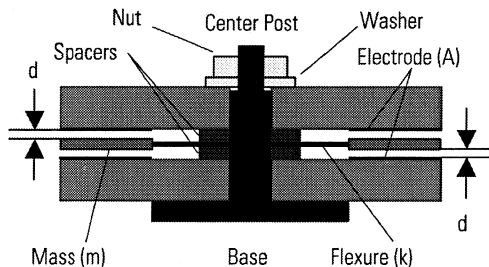
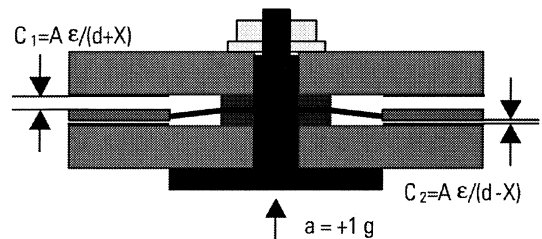
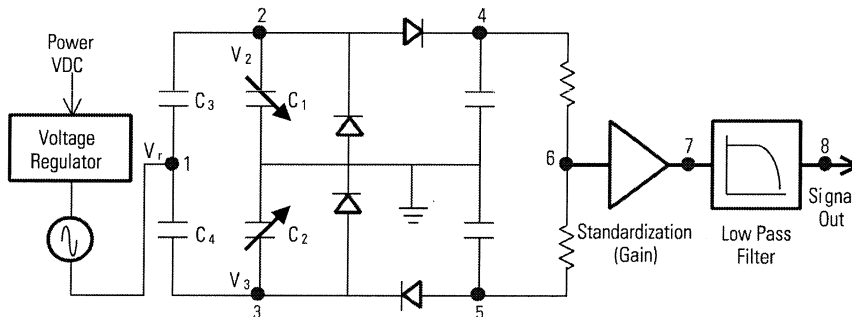
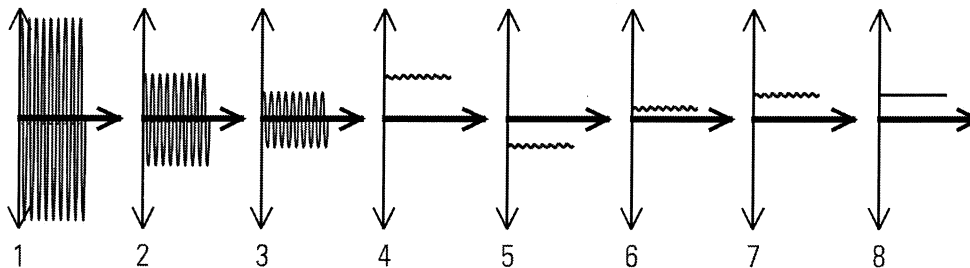

Figure 1a: Sensing Element in “0 g” Condition
Figure 1b: Sensing Element in “+1g” Condition
Figure 2a Circuit Schematic
Figure 2b: Response from Circuit from +1g Static Acceleration (x-axis = time and y-axis = voltage)
In Series 3700 Variable Capacitance Accelerometers, the sensing mechanism consists of a “washer-shaped,” seismic mass (m) suspended by a proprietary flexure with stiffness (k). This assembly is sandwiched between two circular plates with an electrode area (A), whose distance (d) is closely controlled with precision chemically etched spacers. The resulting air-gap between each electrode and the sensing flexure forms a “mechanical capacitor”. A cross-sectional drawing of this sensing element under a “0 g” condition is depicted in Figure 1a. Figure 1b depicts a “+1 g” condition as may be experienced by the sensor as it rests in the Earth’s Gravitational Field.
As shown in Figure 1b, when the element is accelerated (a), an inertial force (F) is created on the mass (m) according to Newton’s Second Law of Motion.
The built-in microelectronics contains a capacitive bridge circuit that converts this change in capacitance to a useful voltage signal. A simplified schematic of the circuit is shown in Figure 2a. The theoretical response from the +1g acceleration shown in Figure 1b is depicted by the time traces shown in Figure 2b. The numbers 1 through 8 on Figure 2b correspond to the signals at locations 1 through 8 on Figure 2a. For example, if the signal from location 2 were viewed on an oscilloscope, it would look like the signal shown in graph 2 of Figure 2b.
It would be sufficient to complete the circuit at this point, however, a couple additional features are included to enhance the performance of the sensor. First is the addition of a “standardization” amplifier. This is used to “trim” the range of the sensor to a convenient number such 3g, 20g, 50g or 200g. For example, the amplifier in Figure 2a is used to gain the signal by a factor of 2. In other words, the voltage at Location 7 is twice as large as it is at Location 6. Second, a low-pass electrical filter is used to reduce unwanted signals from high frequency vibration and eliminate any residual affects of the oscillator frequency.